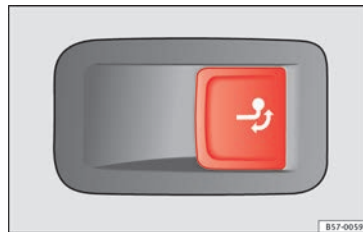

Fig. 219 On the right side of the luggage compartment: button for unlocking the tow hitch.
- Pull the »» Fig. 219 button briefly. The tow hitch unlocks electrically and automatically turns outwards. The control lamp in the button will flash »» Fig. 219.
- Pull the »» Fig. 219 button briefly. The tow hitch unlocks electrically.
- Turn the tow hitch under the bumper with your hand until you feel and see that it engages and the control lamp on the »» Fig. 219 button stays on.
- If the warning light of the button »» Fig. 219 is *flashing*, this means that the tow hitch has not been attached properly or is damaged »» ⚠.
- Never press the »» Fig. 219 button when there is a trailer hooked to the vehicle or when a carrier system or other accessories are mounted on the tow hitch.